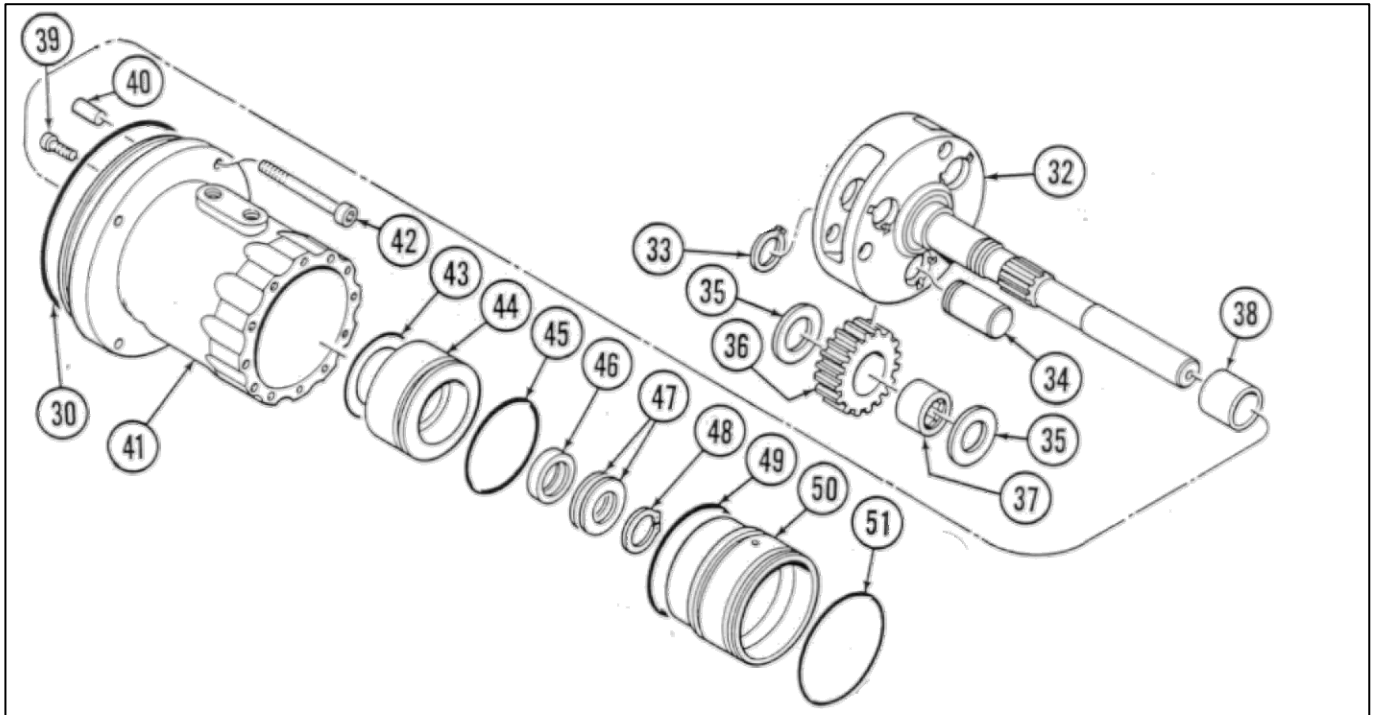

Figure 4. Gearbox Housing Assembly
The gearbox housing assembly, refer to figure 4, consists of a planet gear carrier and output shaft (32), three planet gears (36), needle bearings (37), spacers (35), and planet shafts (34).